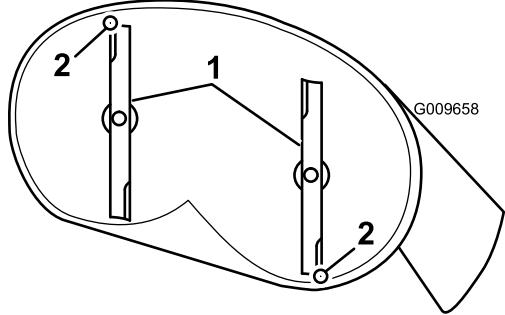

Figure 51
4. Carefully rotate the blades so they are facing front to rear (Figure 51).
5. Measure from the tip of the front blade to the flat surface and the tip of the rear blade to the flat surface (Figure 51). If the front blade tip is not $1/16\text{--}5/16$ inch (1.6-7.9 mm) lower than the rear blade tip, adjust the front locknut.
8. After adjustment, check the front-to-rear slope again. Continue adjusting the nut until the front blade tip is $1/16\text{--}5/16$ inch (1.6-7.9 mm) lower than the rear blade tip (Figure 51).